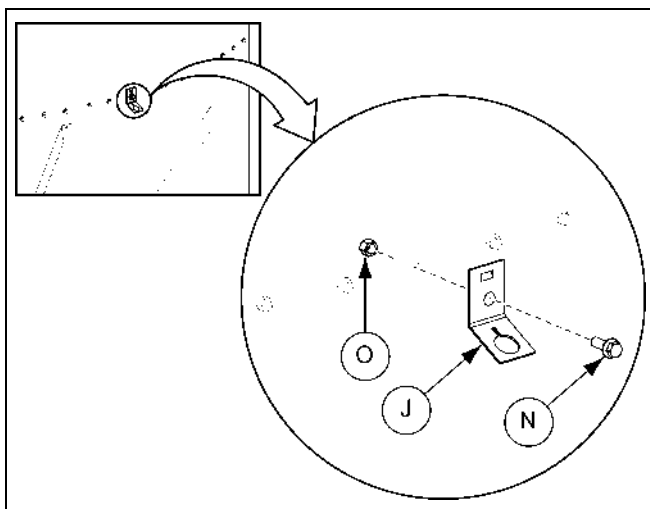

Figure 10A Installing the Chain Holder Bracket
1. Determine where you want the ground control to be located and install the chain holder bracket (J) using an existing hardware (N and O) in the seam where the hopper panel meets the sidewall. (See Figure 10A.)